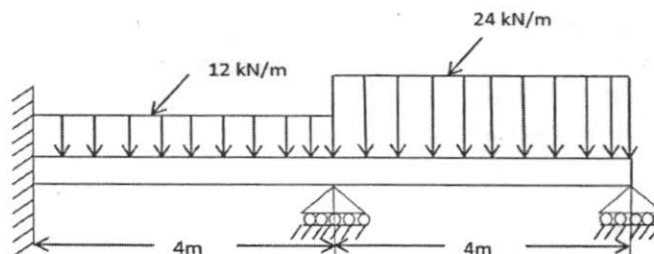

Fig. 7
7. For the beam shown in Fig. 7, determine the slopes and deflection at the mid span taking $E=200\text{GPa}$ and $I=4 \times 10^6\text{mm}^4$.